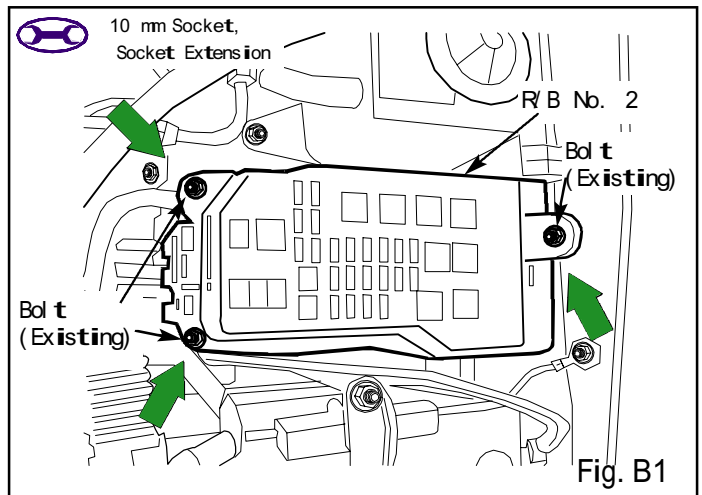

Fig. B1
1. Remove and save the three bolts securing R/B No. 2 to the body in the engine room. (Fig. B1)